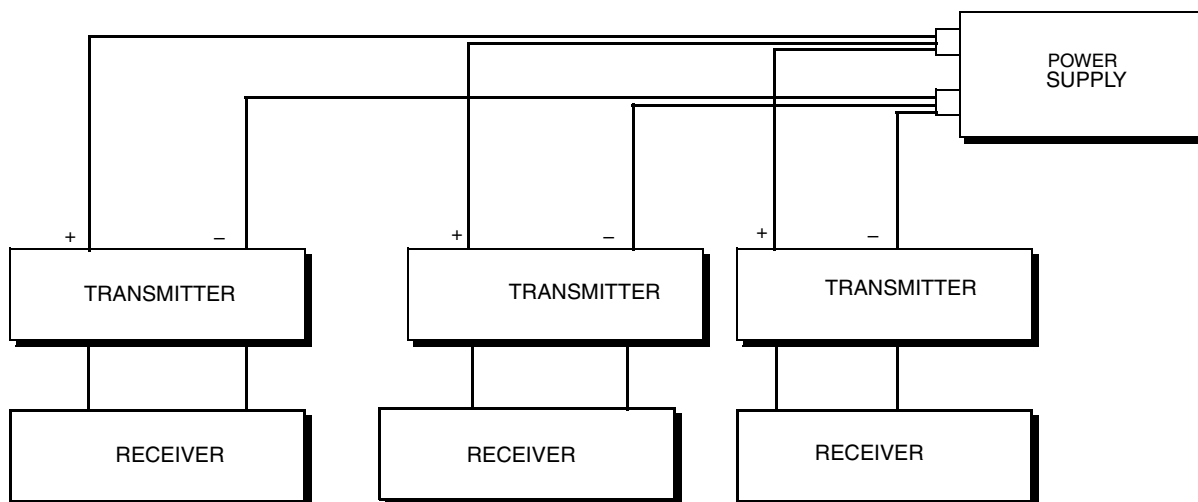

Figure 19. Wiring Several Transmitters to a Common Power Supply (Four-Wire Connection Shown)
8. If wiring additional transmitters to the same power supply, repeat Steps 1 through 7 for each additional transmitter. The setup with multiple transmitters connected to a single power supply is shown in Figure 19.